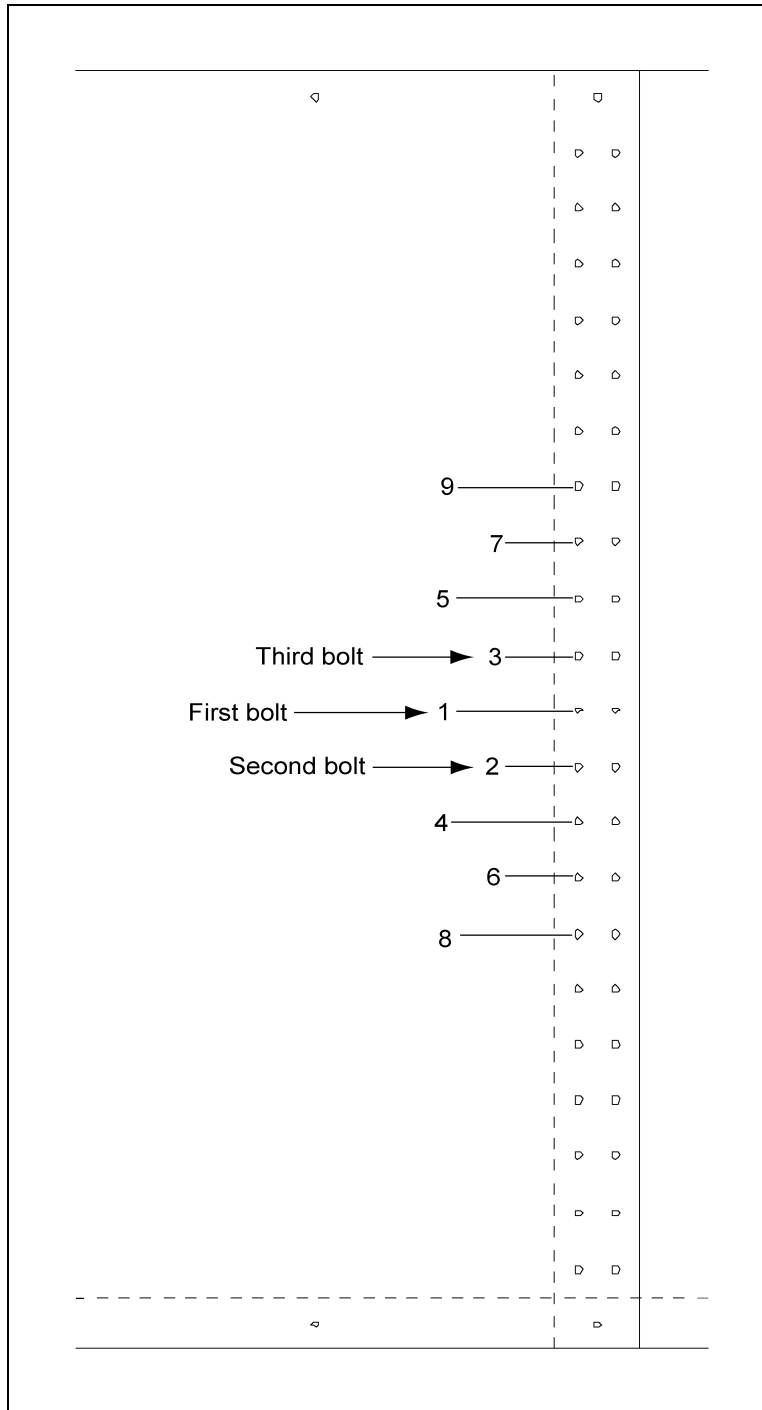

Figure 9B Tighten Bolts in Order
4. Now tighten the bolts in sequence, starting from the center and working to the edge in both directions. This permits the sidewall sheets to draw-up evenly. Complete one ring and stop. (See Figure 9B on Page 37.) Tighten from the nut side.